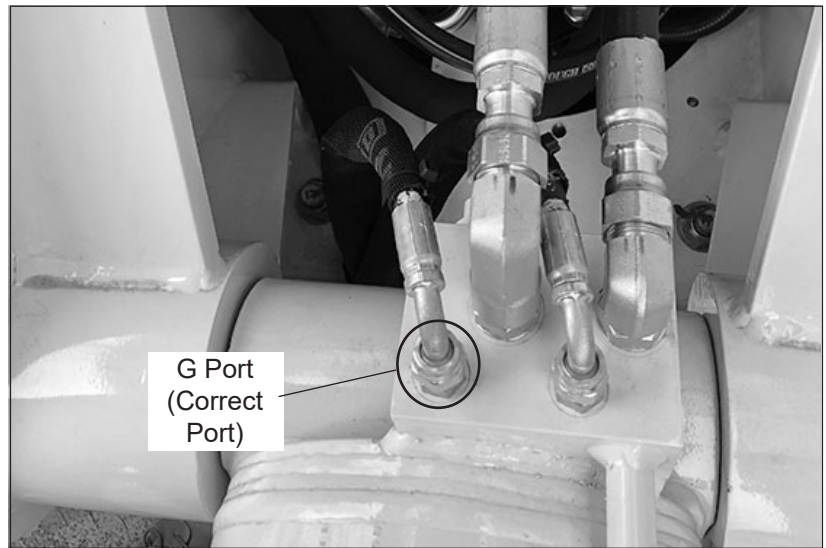

Figure 3 — Correct Hose Connection
4. If there is a hose connected to the G Port on the top of the cylinder (refer to Figure 3), the connection is correct. Go to Step 10.